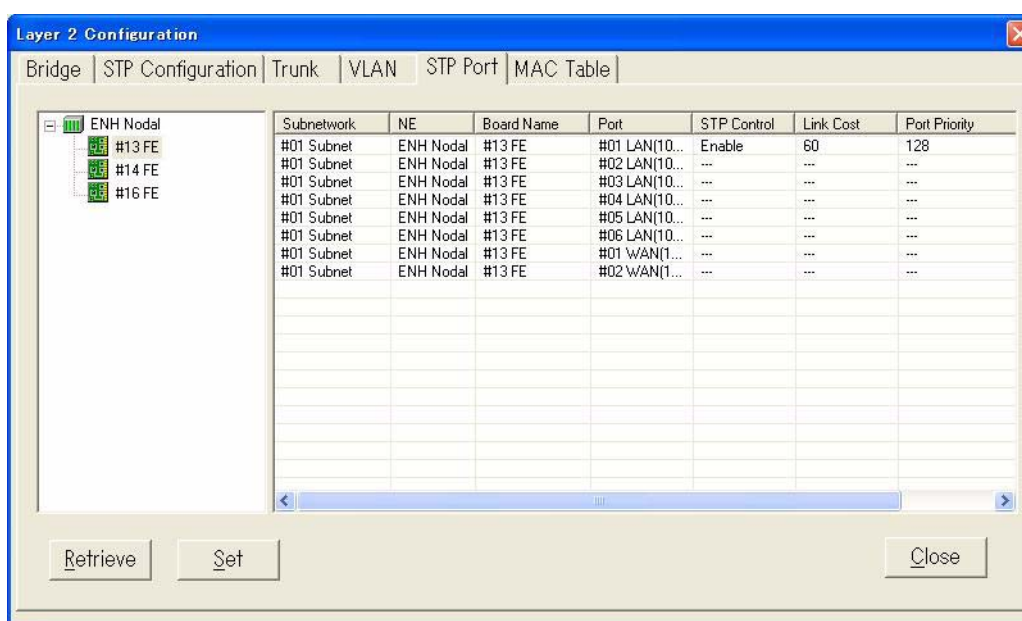

Fig. 4-4-72 STP Port
- 1 See *Fig. 4-4-42*, select **STP Port** attribute page on the top of window. *Fig. 4-4-72* appears: